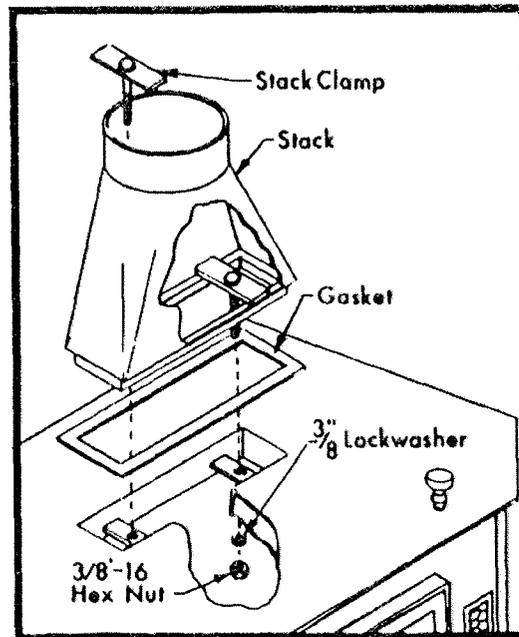

FIGURE 6 MOUNTING STACK
- Attach the stack by placing the stack brackets down on the lip on the inside lower edge of the stack. Insert the bolts through the holes in the damper brackets and fasten securely with the lock washers and nuts provided. Be sure the stack sits squarely on the top of the stove with the gasket material making a good seal. (See Figure 6.)